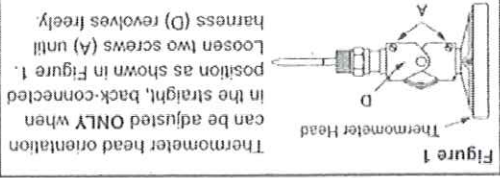

Figure 1
Thermometer head orientation can be adjusted ONLY when in the straight, back-connected position as shown in Figure 1. Loosen two screws (A) until harness (D) revolves freely.